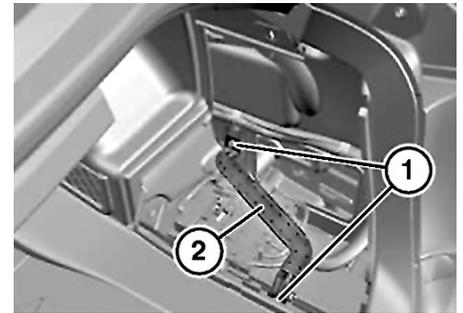

Fig. 2 Battery bracket removal
- a. Remove bracket mounting screws (1) and remove bracket (2), **Fig. 2**.
- g. Install bracket (2) and mounting screws (1), **Fig. 2**.